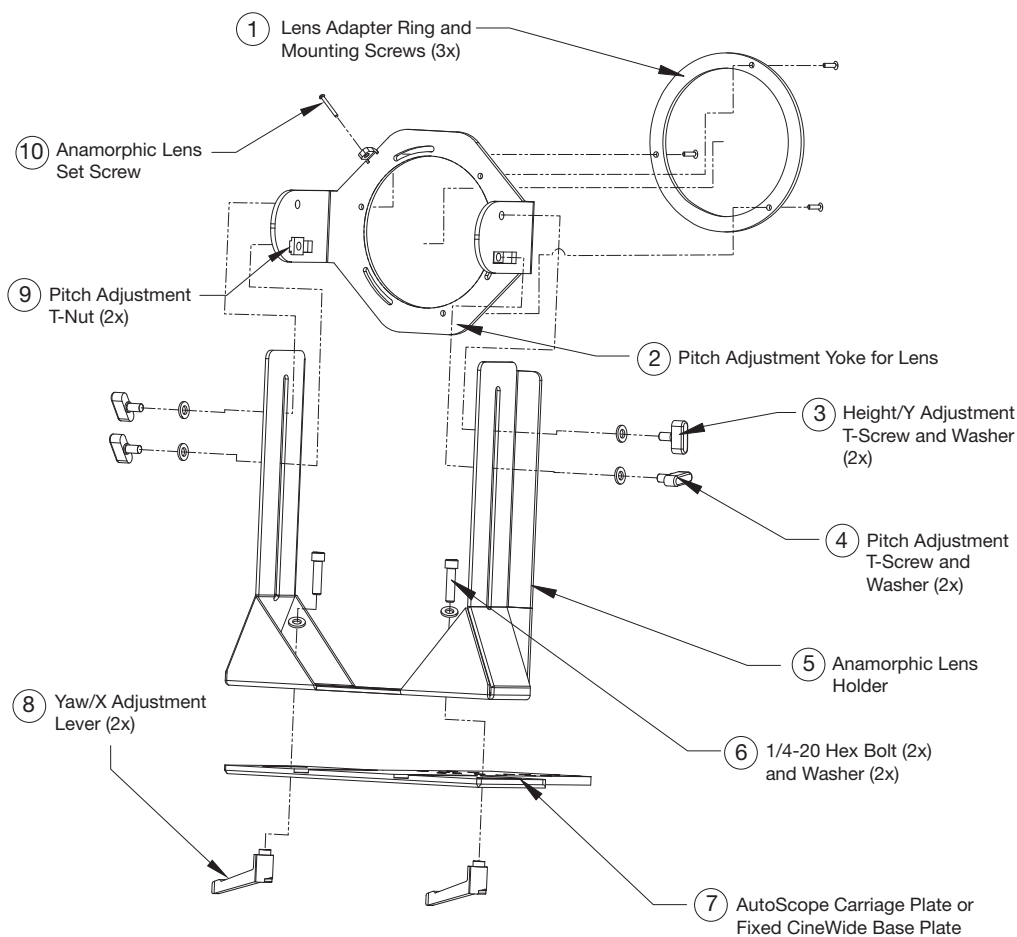

Figure 3-21. VX-6000d Anamorphic Lens Mounting Assembly - Exploded View
The VX-6000d Anamorphic lens mount kit consists of everything shown in Figure 3-21. Some components shipped with your projector may differ slightly from what is shown in these instructions. If any items are missing or damaged, please contact your Runco dealer or Runco Customer Service at (800) 23-RUNCO.